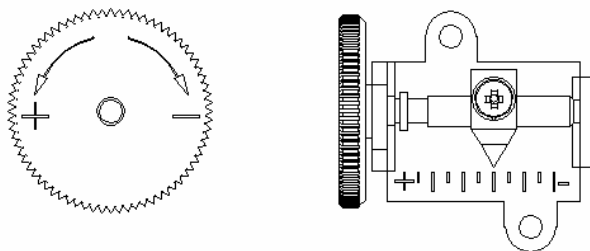

Fig. 12
1. Set supply signal at 3 psi and rotate adjuster clockwise or counter-clockwise to adjust actuator's rotation angle. **Fig.12**